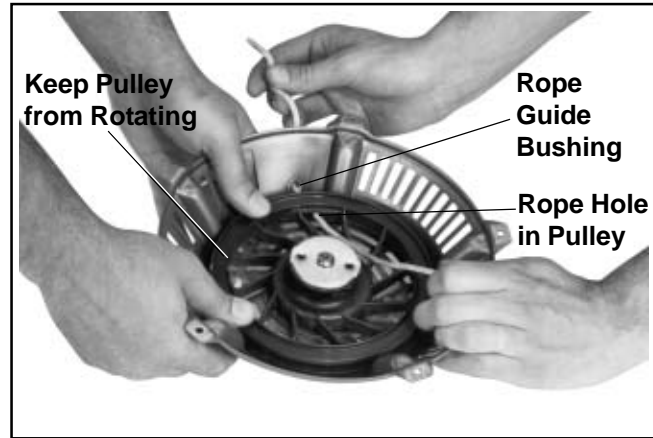

Figure 7-3. Installing Rope.
9. Insert the new rope through the rope hole in the starter pulley and the rope guide bushing of the housing. See Figure 7-3.